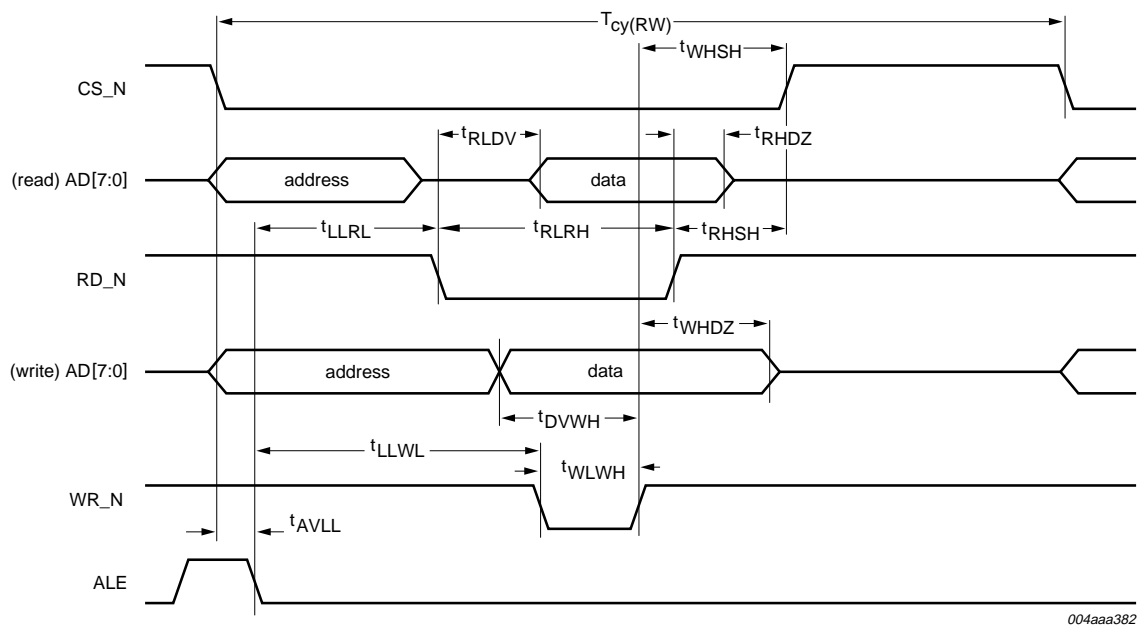

Fig 24. ISP1583 register access timing: multiplexed address/data bus (8051 style).
- MODE0 = H: 8051 style; see Figure 24